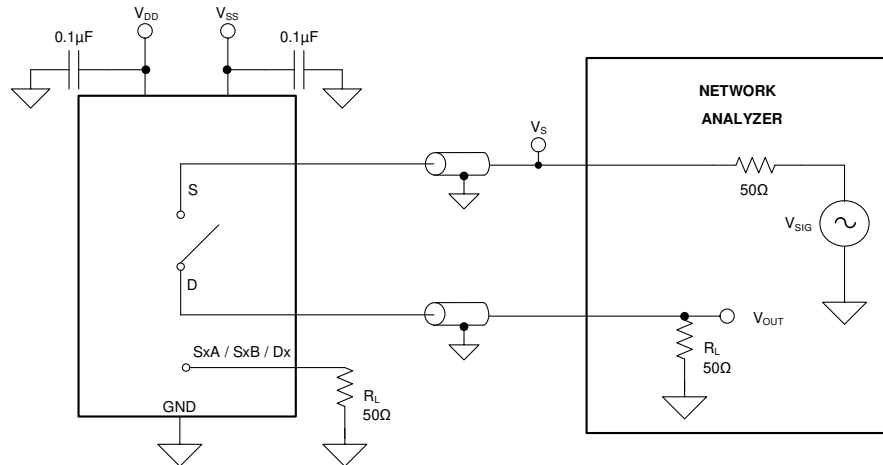

图 7-8. Off Isolation Measurement Setup
Off isolation is defined as the ratio of the signal at the drain pin (D) of the device when a signal is applied to the source pin (Sx) of an off-channel. 图 7-8 shows the setup used to measure, and the equation used to calculate off isolation.